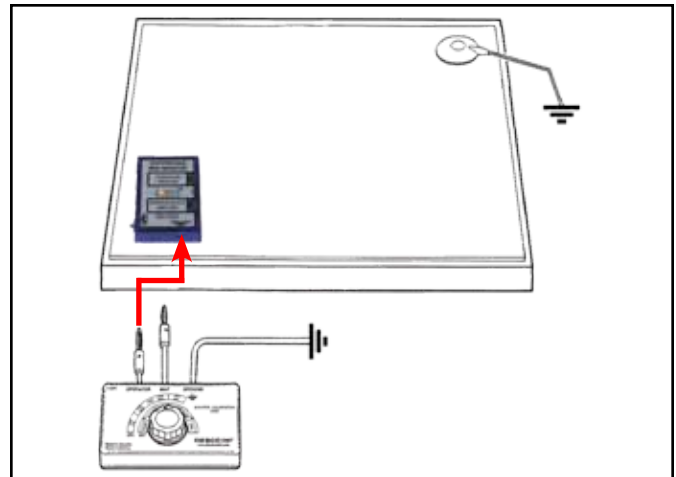

Figure 6. Connecting the OPERATOR test lead from the Monitor Calibration Unit to the Jewel® Workstation Continuous Mini Monitor
Step 2: Insert the Calibration Unit's banana plug labeled "OPERATOR" into the jack labeled "OPERATOR" on the Jewel® Workstation Continuous Mini Monitor (see Figure 6).